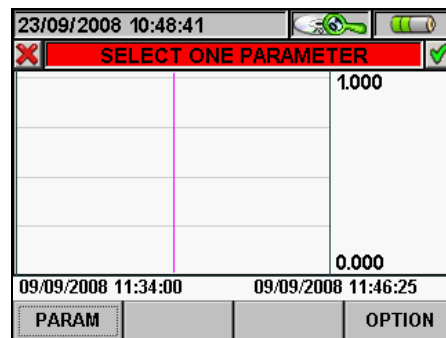

Fig. 139: Selecting a parameter
- Press the **ESC** key (or the smart icon on the display) to exit the function and go back to the “Selecting a parameter” page (Fig. 139)
- Press the **ESC** key (or the smart icon on the display) to exit the function and go back to the “Selecting a parameter” page(Fig. 139)